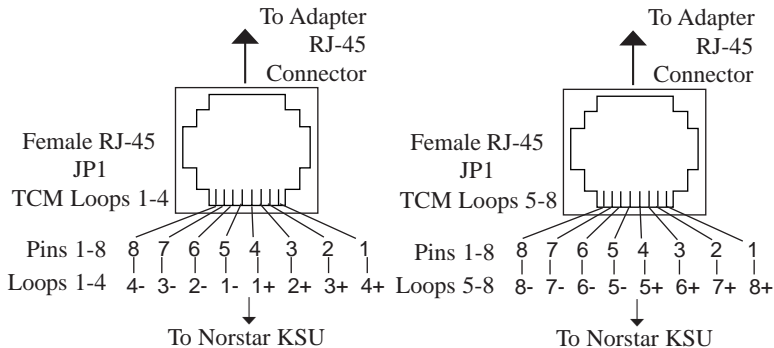

Figure 2. TCM Loop RJ-45 Pinout Connections
1. Connect the TCM Loops from the KSU to a male RJ-45 connector using the wiring scheme in Figure 2 below. Connect up to 8 TCM Loops with TCM Loops 1 to 4 in RJ-45 connector 1 and TCM Loops 5 to 8 in RJ-45 connector 2.